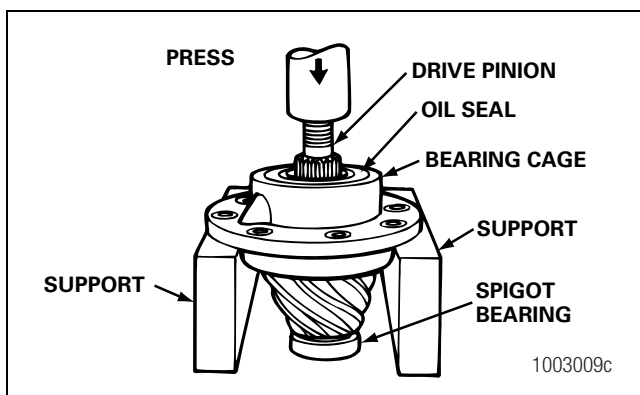

Figure 3.25
1. Place the drive pinion and bearing cage in a press. The pinion shaft must be toward the top of the assembly. Figure 3.25.
2. Support the bearing cage under the flange area with metal or wood blocks. Figure 3.25.
3. Press the drive pinion through the bearing cage. The inner bearing cone and bearing spacer will remain on the pinion shaft. Figure 3.25.